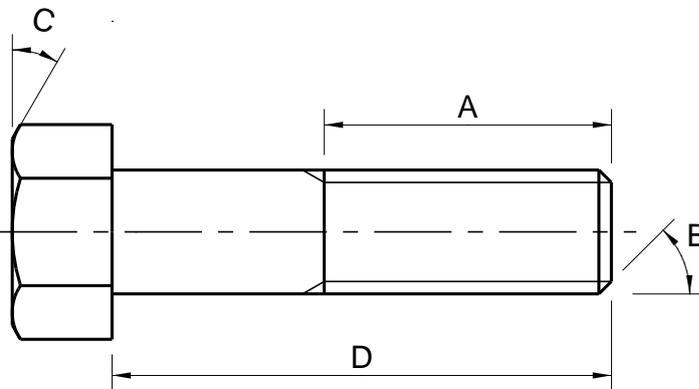

FIGURE 1
1.3 FIGURE 1 shows a view of a fastener in conventional representation.